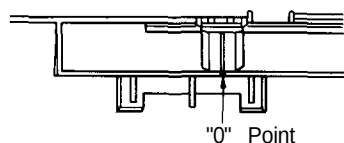

Figure 13-6
- Turn the tuning control shaft fully counterclockwise, and fix it with the pointer aligned with the zero (0) point on the frame. See Figure 13-6.